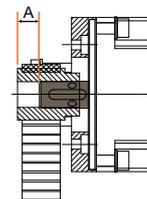

Figure 21: Depth gauge A
- ◆ Measure and note depth "A" from toothed pulley to motor / gearbox shaft before dismantling the toothed pulley (please refer to Figure 21: Depth gauge A).